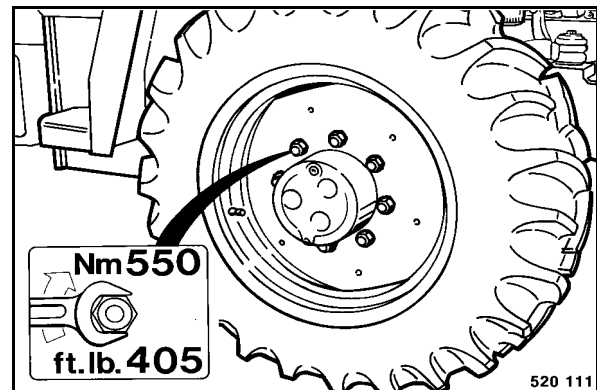

Fig. 178
- Tighten the wheel nuts (Fig. 178) in a cross-wise pattern.